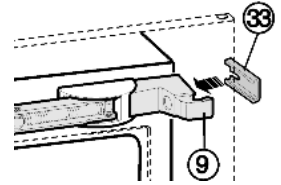

Fig. 26
- ▶ Press spacer Fig. 26 (33) onto the turn hinge Fig. 26 (9) in the area of the slot.